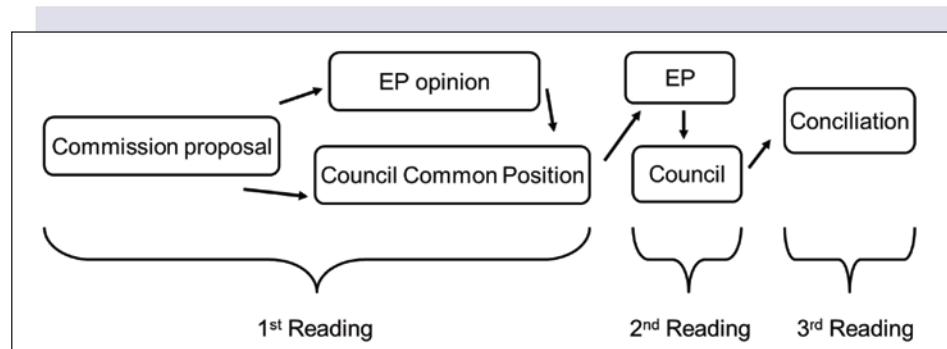

Figure 1: The ordinary legislative procedure
In the meantime, the proposed Regulation is subject to the EU's ordinary legislative procedure, meaning that the proposal will be scrutinized by the European Parliament (EP) and the Council of the EU in the coming months with tripartite meetings between Parliament, the Council, and the Commission also taking place. The ordinary legislative procedure is illustrated in Figure 1.